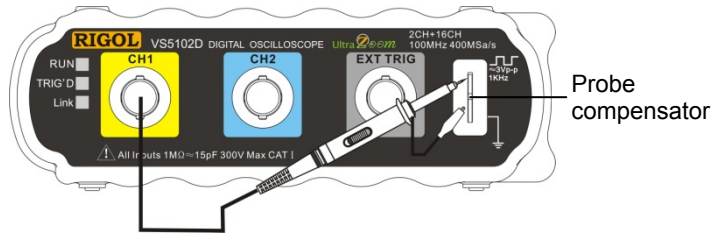

Figure 1-6
- 1) Set the attenuation switch on the probe as 10X (Figure 1-6) and connect the probe on the oscilloscope with CH1. Aim the slot in the probe connector at the faucet on BNC of CH1 and insert, then, turn right to lock the probe. Finally, attach the tip of probe and ground nip to the Connector of Probe compensator.